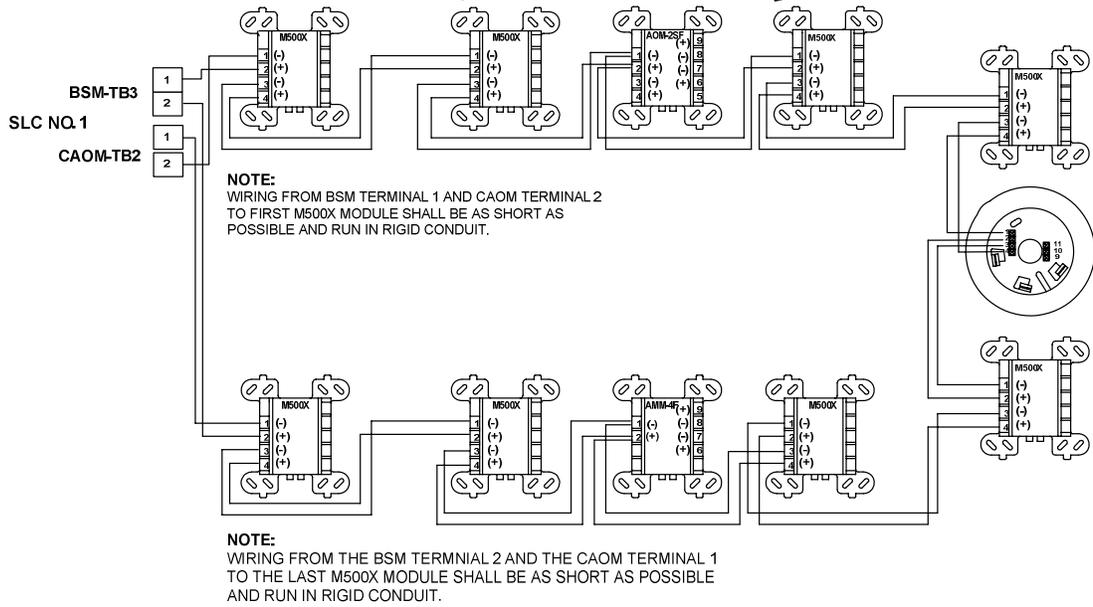

Figure 8
The 7100 provides one (1), or two (2), 24 VDC Class B, Style 4 signaling line circuits. Class A, Style 6 or 7 operation is accomplished by adding the Class A Option (CAOM) Module. See Figure 7 for Style 4 or 6 wiring, and Figure 8 for Style 7 wiring.